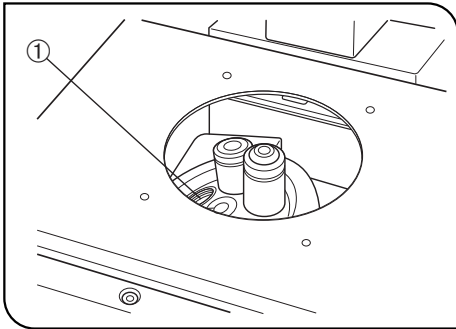

Fig. 91
5 Attaching the Objectives (Fig. 91)
★ In the inverted microscope, the front lens of the objectives faces upward, and is more exposed to contamination than the objectives of upright microscopes. Therefore, if there are empty positions in the nosepiece, attach the dust caps ① provided. (Fig. 91)